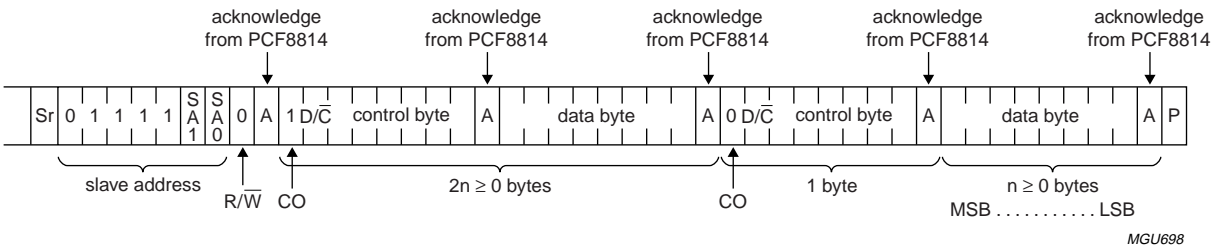

Fig.28 Master transmits in Hs-mode to slave receiver; write mode.
A write sequence after the Hs-mode is selected is given in Fig.28. The sequence is initiated with a START condition (S) from the I²C-bus master which is followed by the slave address. All slaves with the corresponding address acknowledge in parallel, all the others will ignore the I²C-bus transfer.
After the acknowledgement cycle of a write (\bar{W}), one or more command words follow which define the status of the addressed slaves. A command word consists of a control byte, which defines CO and D/C, plus a data byte (see Fig.28 and Table 4).